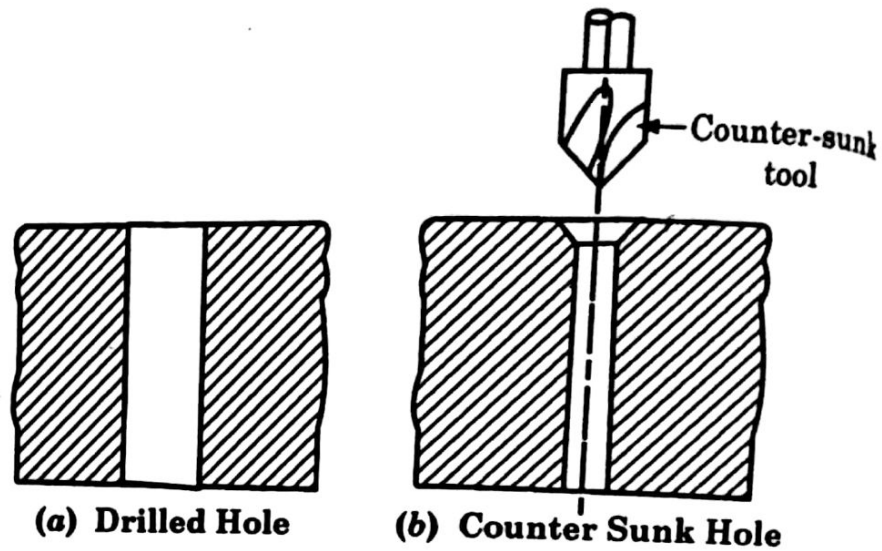

Fig. 2.19 : Counter Sinking
6. Counter Sinking : It is the operation used for enlarging the end of hole to give it a conical shape for a short distance. It is done by using a countersunk tool shown in fig. 2.19. The countersunk holes are used when the counter-sunk screws are to be screwed into the holes so that their top faces have to be in flush with the top surface of the workpiece.